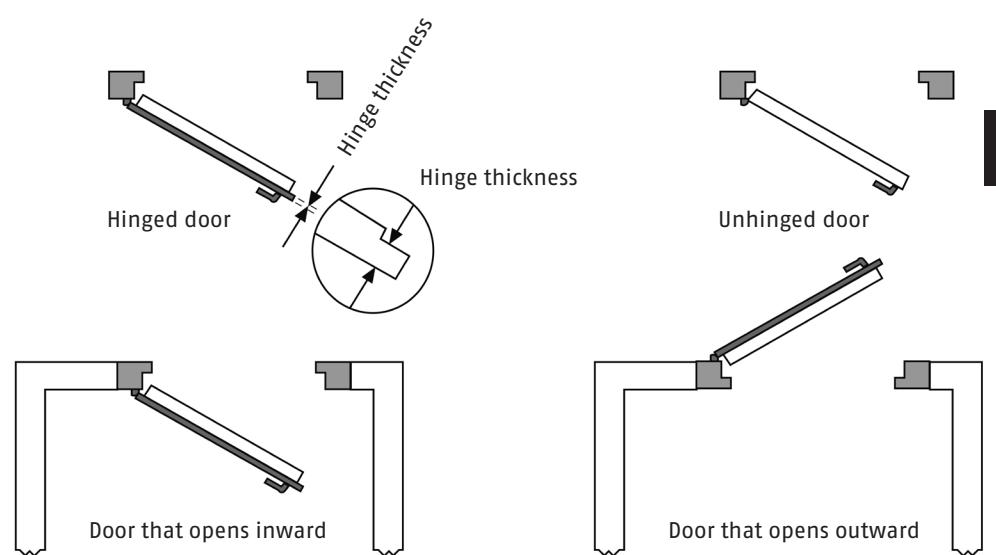

Fig. 3
**We recommend fitting beneath the mounting (Fig. 3).**
- Set and mark the position of the lock body on the door panel (Fig. 3+4).